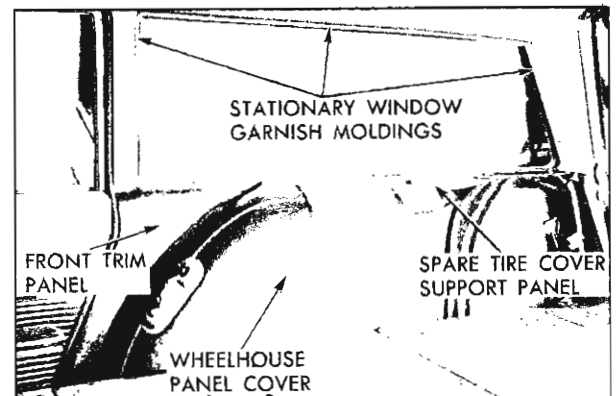

Fig. 73—Stationary Window Assembly
3. Remove rear quarter stationary window channel lower retainers (one (1) required for right side, two (2) required for left side), (fig. 73).